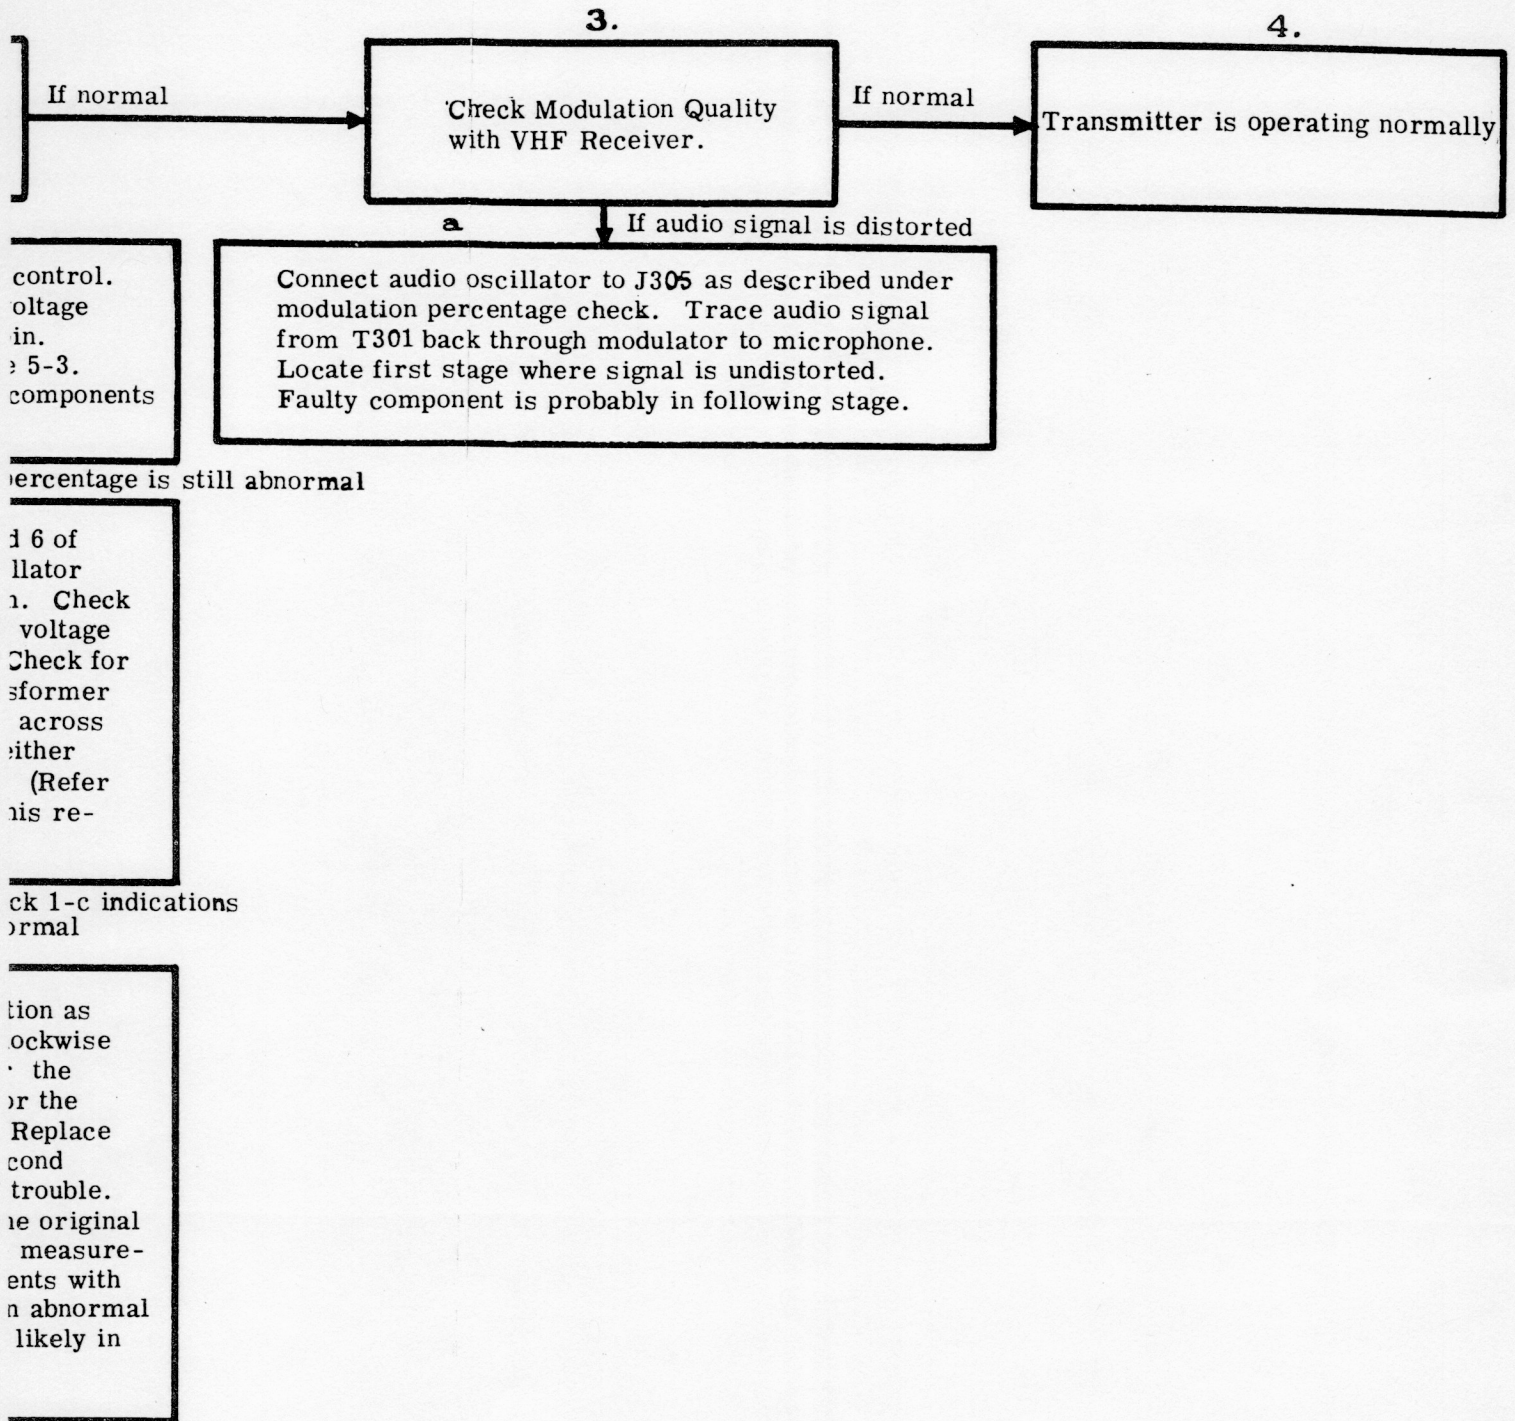

Figure 5-1A. Trouble-Shooting Chart for Type 242F-2 Transmitter
(1) Perform the equipment checks specified in blocks 1, 2 and 3 of the troubleshooting chart, figure 5-1A.
(2) Perform an "off-resonance" check of the power amplifier tubes as follows: With the LOADING and PLATE controls adjusted for critical coupling (refer to Table 2-1), detune the plate cavity to each side of the resonance, using the PLATE control. Record the CATHODE 1 and CATHODE 2 currents for resonance and for each off-resonant condition. For each tube, record the difference between the reading at resonance and the average of the two readings at off-resonance in the logbook. When the difference is considerably less than the difference noted when the tube was new, the tube is nearing the end of its useful life. (The point at which the tube must be replaced depends upon the application of the transmitter.)
Most of the troubles that develop within the transmitter are expected to be caused by faulty tubes. When a trouble develops, therefore, first isolate the source to one of the four units of the transmitter, then check the tubes in that section and replace those that are faulty. If these procedures do not correct the trouble, perform the basic section checks outlined in blocks 1, 2, and 3 of the trouble-shooting chart, figure 5-1A. If any one of these checks fails, proceed vertically from that block and perform the trouble-shooting procedures outlined for that section.